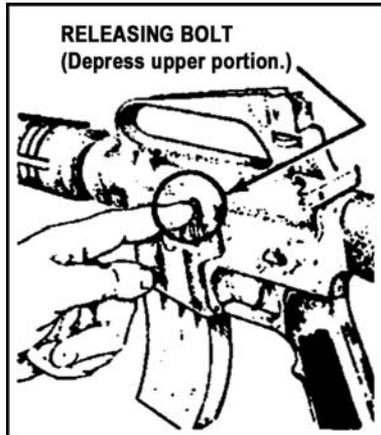

Figure 071-311-2027-7. Bolt catch
(1) Depress the upper portion of the bolt catch to release the bolt (figure 071-311-2027-7).